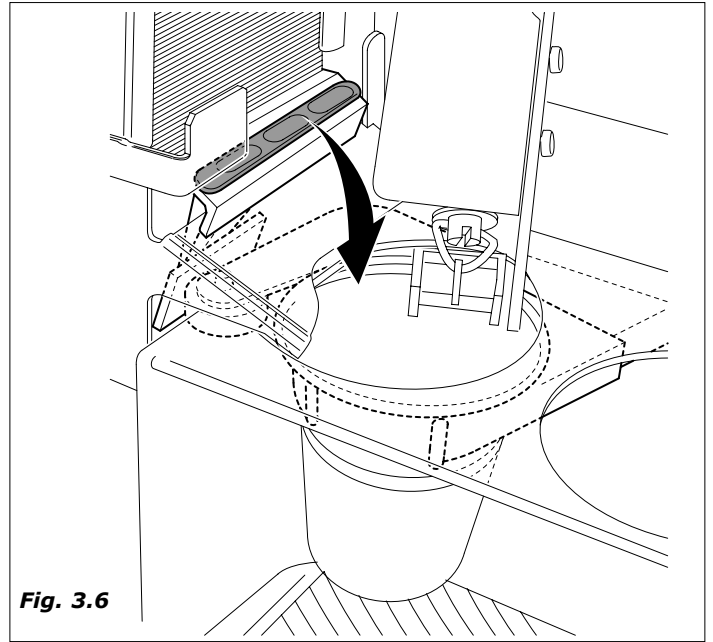

Fig. 3.6
- the geared motor that operates the spoon release device is activated making the spoon fall into the cup (Fig.3.6).